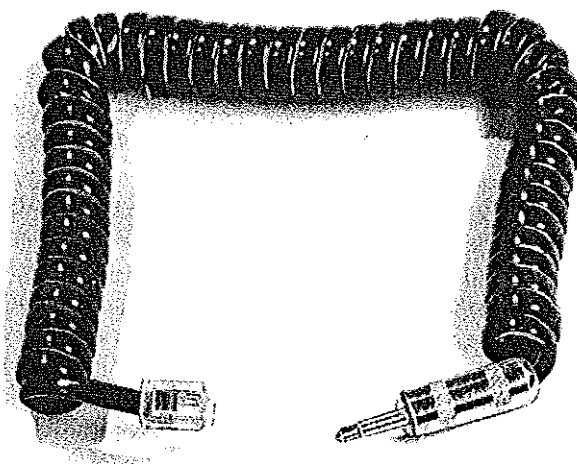

Fig. 12 - Cassette Adaptor Cord
5.01 The Cassette Adapter Cord (figure 12) has a miniature phone plug and an RJ-11 modular line plug on opposite ends of a 3-foot coiled cord. With this accessory, audio may be taken from an audio cassette player and loaded directly into a Digital Announcer without picking up background or ambient noises.